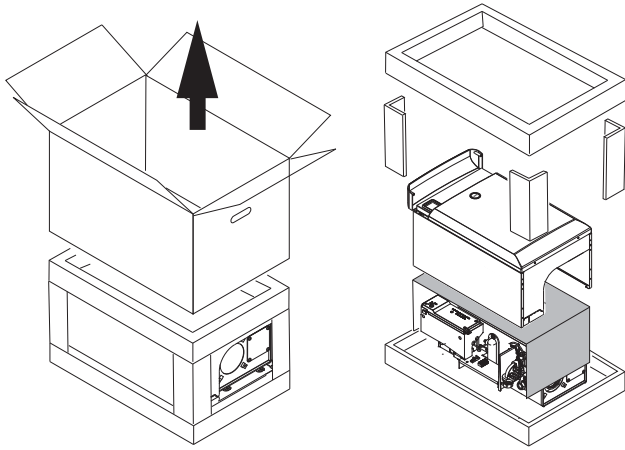

Fig. 22a
10.2 Preparing The Boiler (Figs. 22a & 23)